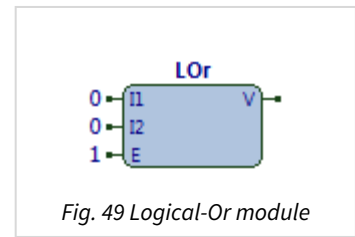

Fig. 49 Logical-Or module
The LOr module (Fig. 49) performs the logic operation to determine whether either of its specified inputs are set non-zero. It performs the logical or operation (OR).